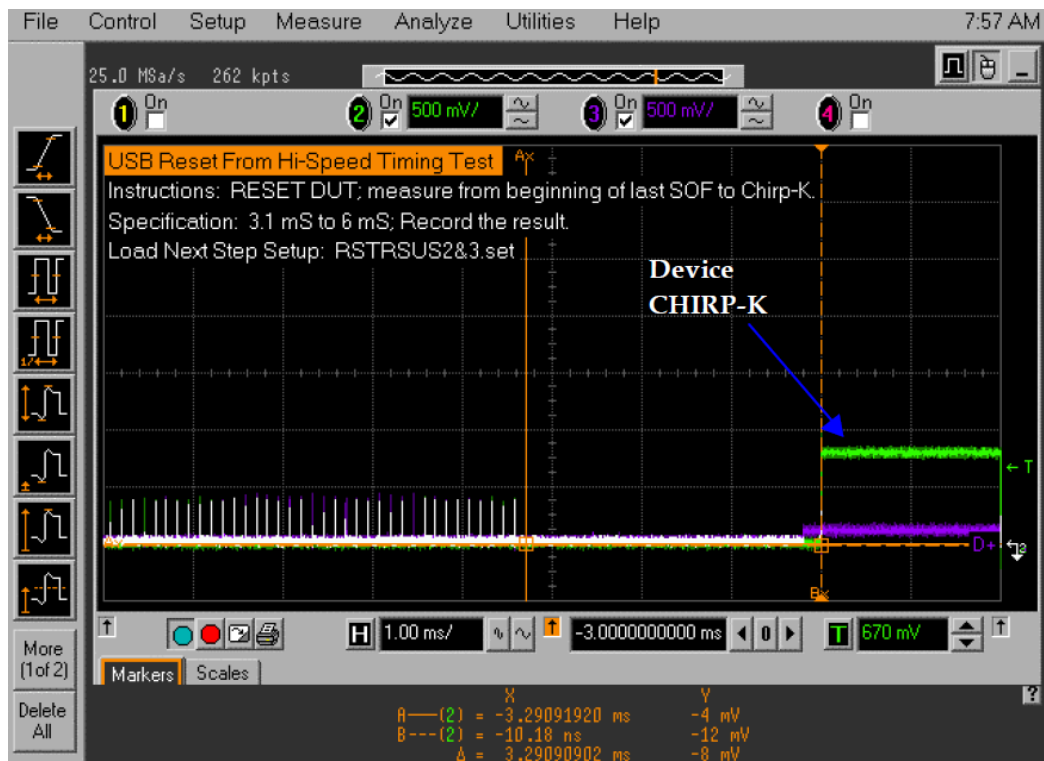

Figure 49. Device reset from high-speed waveform
10. Select **Reset**, then click on **Execute** once to reset the device operating in high speed. The captured transition should appear as in Figure 49.